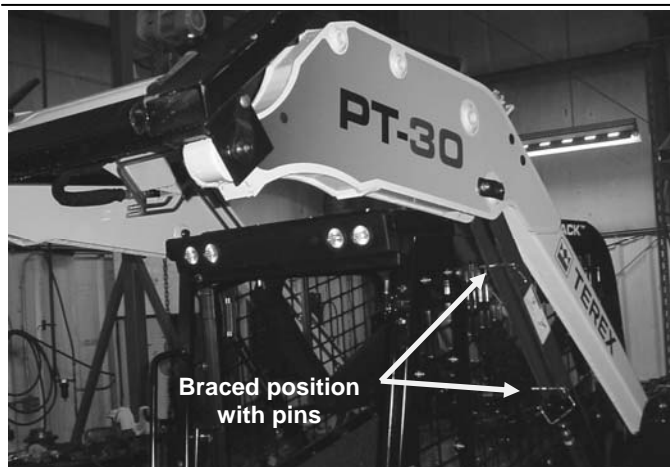

Figure 16-1
5. Have an assistant install the brace around the cylinder shaft as shown and reinstall the pins to secure it to the cylinder as shown in Figure 16-1.